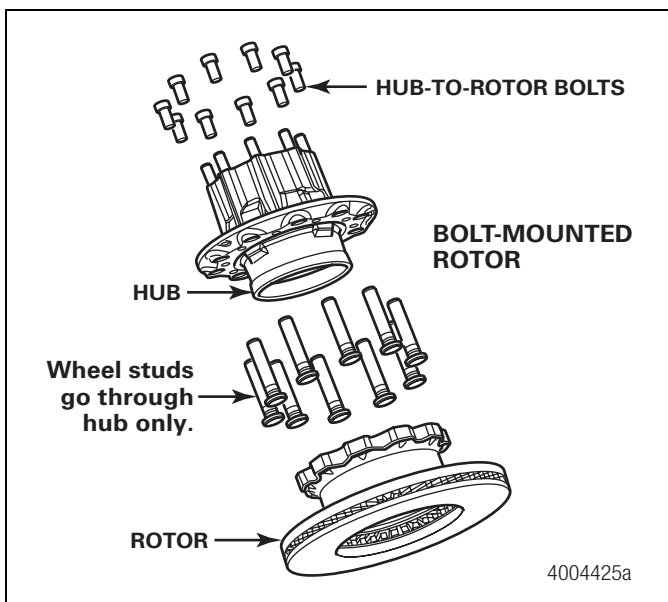

Figure 16
- For bolt-mounted rotors:** Unscrew the hub-to-rotor bolts. Figure 16.
- For bolt-mounted rotors:** Tighten the hub-to-rotor bolts to 175-195 lb-ft (238-265 N•m). Figure 16. ⚠